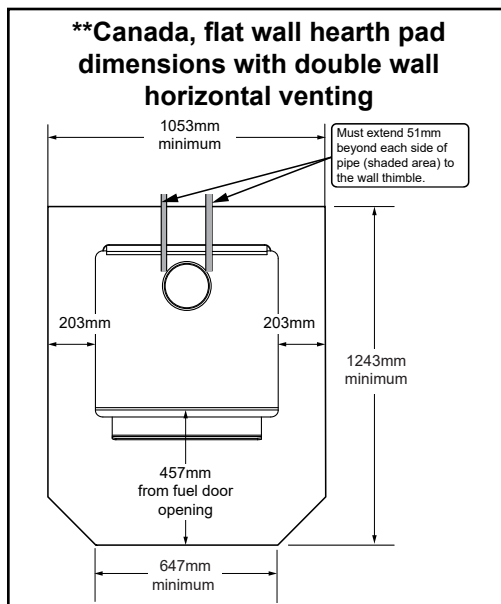

Figure 9.2 - \*\*This dimension will vary depending installation.
**In Canada,** similar floor protection must be provided 18 inches (457mm) in front and 8 inches (203mm) from the sides and rear of the appliance unless the hearth pad is placed against the wall (**Figure 9.2**). Then the clearance may be reduced using double wall pipe and the **Clearance to Combustibles** listed in section 3C.
**\*Exception:** Non-combustible floor protector must extend beneath the flue pipe when installed with horizontal venting and extend 2 inches (51mm) beyond each side; **See Figure 9.2**